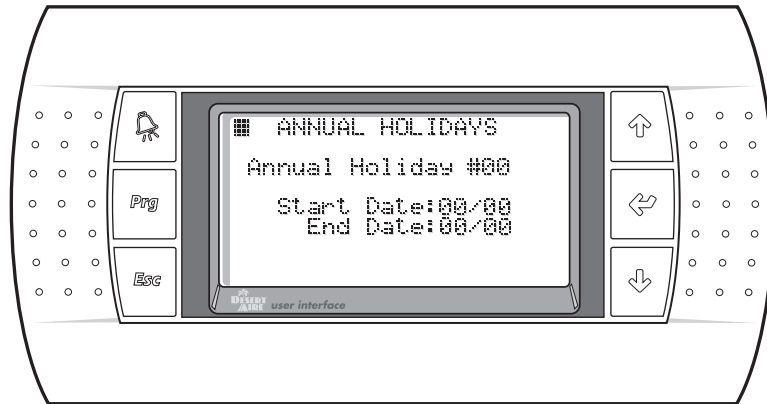

Figure 36
2.5.3. Annual Holidays (Figure 36)